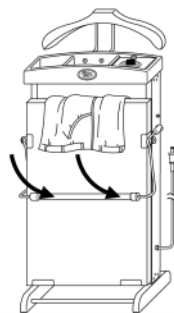

FIGURE 5
5. Pull Plated Pressing Bar the rest of the way down, fully locking Front Pressing Plate into “closed” position (FIGURE 5).